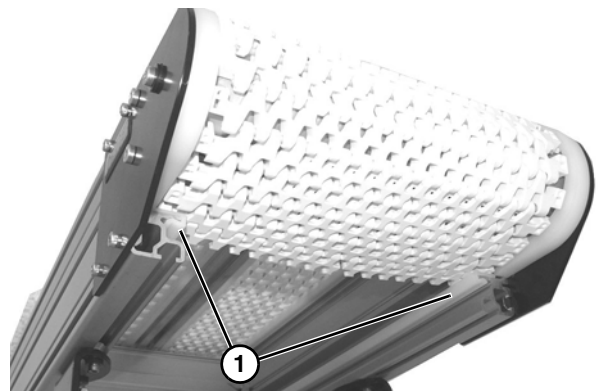

Figure 13
3. Install belt around lower frame section and above lower wear strips (Figure 13, item 1).